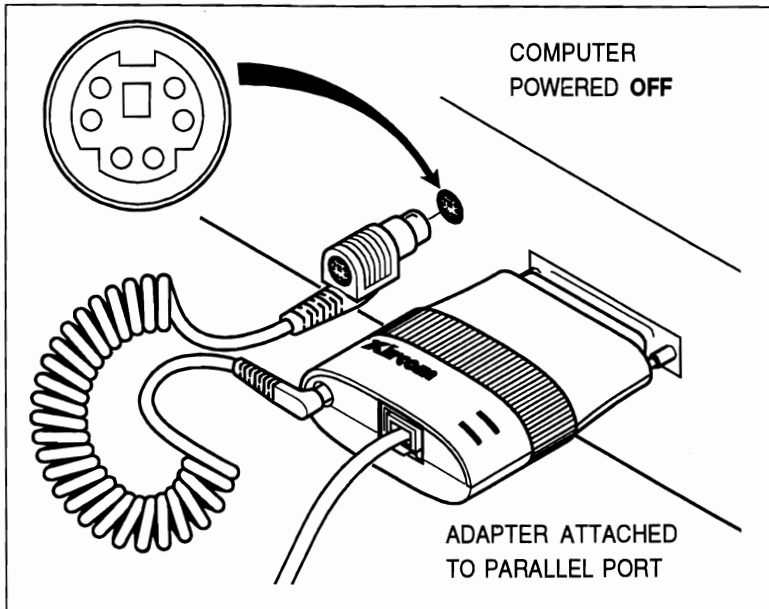

Figure 7. Connecting the Phantom Power Cable to the Computer
3. Plug other end of the Phantom Power Cable into the 6-pin PS/2-style mouse port on the computer. See Figure 7.